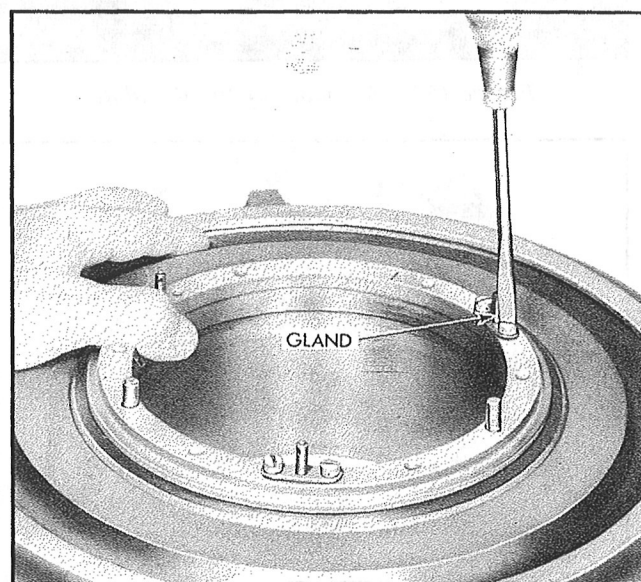

Figure 169—Installation of the Control Screw Glands
2. Install a control screw packing gland over each screw, as shown in Figure 169 and attach the gland to the adapter ring by means of two fillister head screws.